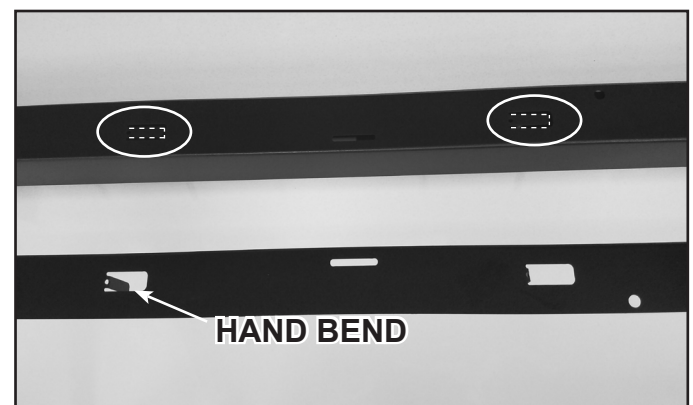

Figure 1 Back Plate Hand Bends
1. Locate hand bends on the vent back plate as shown in Figure 1. Use a screwdriver to bend them in the same direction as the long and short bends. The number of hand bends may vary by appliance size.